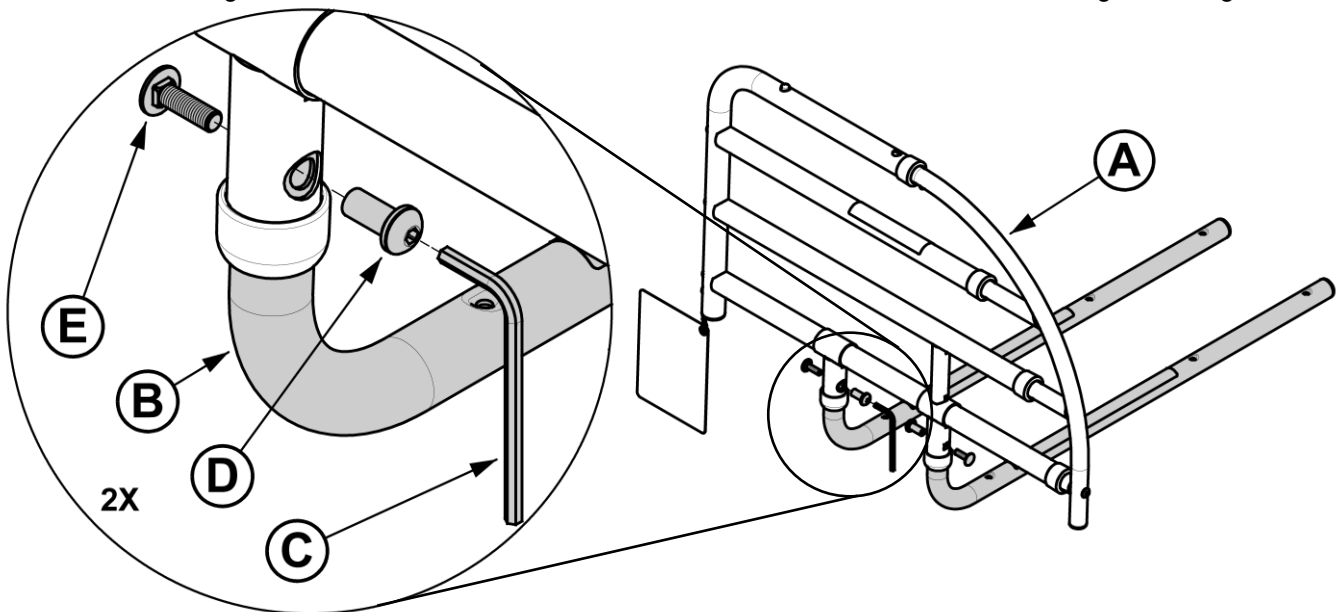

FIGURE 3
- Insert Legs **B** into Rail **A** and secure with Bolts **D** and **E**, as shown in *FIGURE 3*. Tighten using Tool **C**.